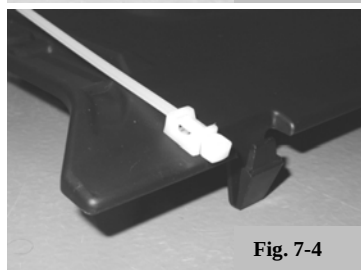

Fig. 7-4
- (1) Feed the wire ties into the plastic mounts from rear to front, orienting the wire tie "head" towards the front of the cover. (Fig. 7-4)